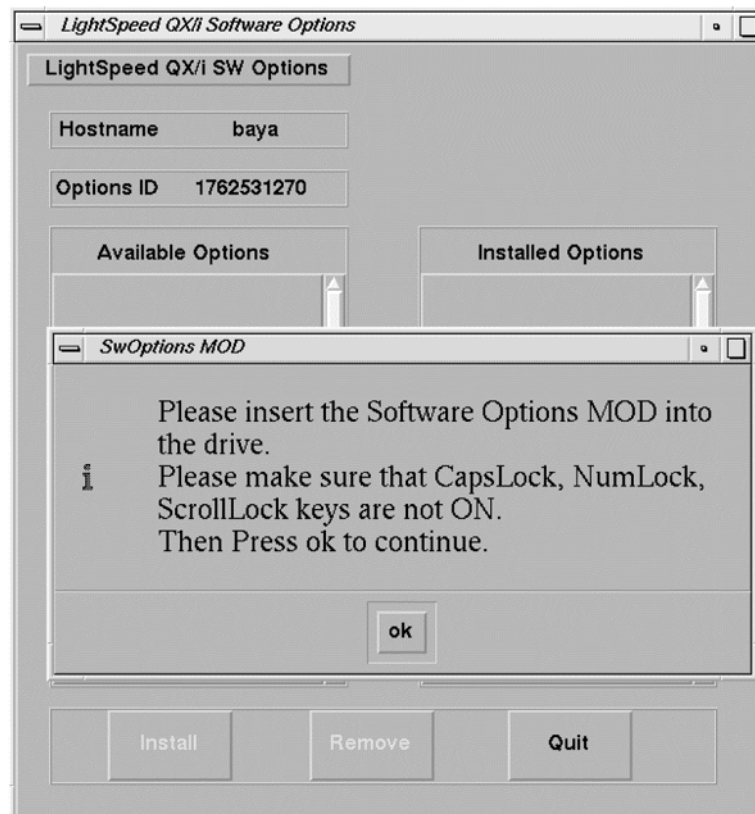

Figure 12-6 Options Window when First Selected
- 4.) Select INSTALL OPTIONS and click START. The console displays the Software Options window as shown in Figure 12-6.
- 13.) Click on the ACCEPT button. The system will check valid setup entries, execute a perl script that makes changes to the configuration files for HIS/RIS, and return to the Software Option window shown in Figure 12-6.